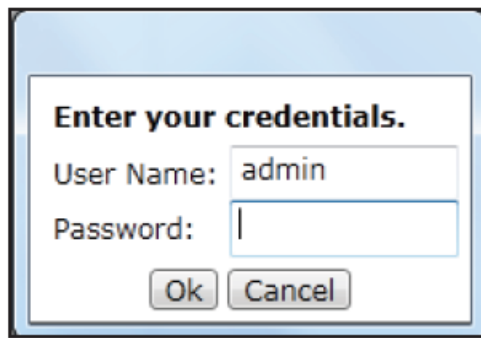

Figure 24. The Enter Your Credentials dialog box.
- **STEP 5.** After the software components have been installed, the control will automatically restart, and the Enter your credentials dialog box will open. See Figure 24.